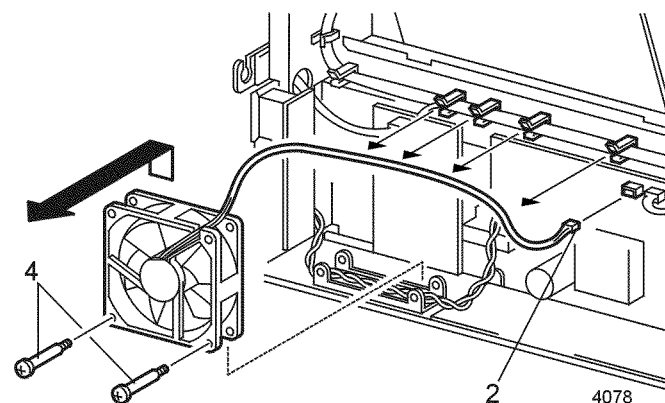

Figure 1 LVPS Fan
4. Remove the two screws that secure the LVPS Fan to the LVPS Assembly (Figure 1).